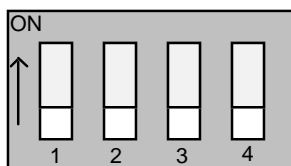

Figure 10 – Switch SW1 Maximum Speaker Output Settings (Default)
2. DIP switch SW1 allows selection of the maximum power level available to the speakers. Set the switches to the desired output level. Table 6 shows the switch settings that apply to the corresponding speakers. Figure 10 shows the default switch settings (low power).